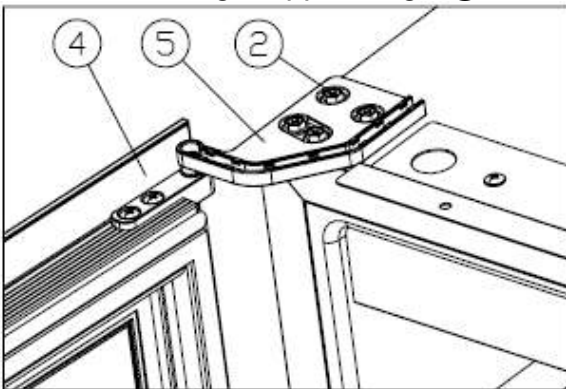

Figure 6
- ✧ Turn the door (4) 180 degrees, and insert the right lower hinge (5), screw tight M5*16 screws (2). [Figure 6] Door reversing is finished.